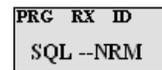

Figure 7
9. The LCD will display "PRGRXID SQL--NRM" for programming the **Squelch Setting**. (See Figure 7) Press the "PRI" key to toggle between "NRM", or "SEL". Select "NRM" and press the "ENT" key.